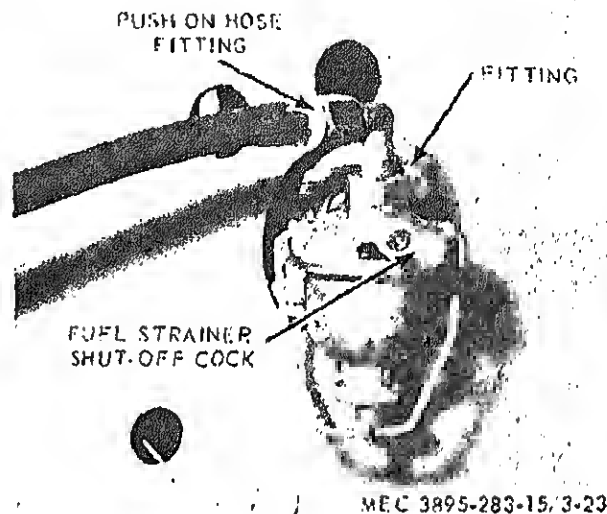

Figure 3-23. Fuel Filter Removal.
(1) Remove fuel filter illustrated in figure 3-23.